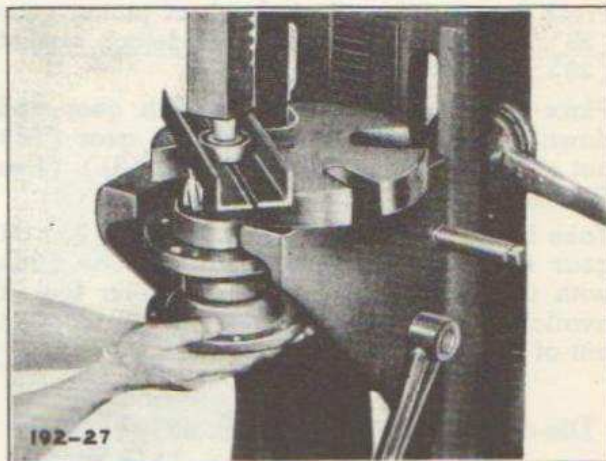

Fig. 20—Removing Inner Bearing from Pinion Gear End
Remove shim pack (6) and wire together. If inner bearing (23) requires renewal, remove from shaft with aid of press. (See Figure 20).